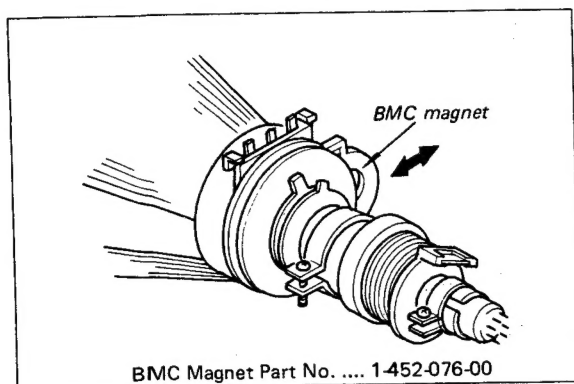

Fig. 3-11. BMC magnet adjustment
- (2) Install and move a BMC magnet horizontally as necessary as shown in Fig. 3-11.